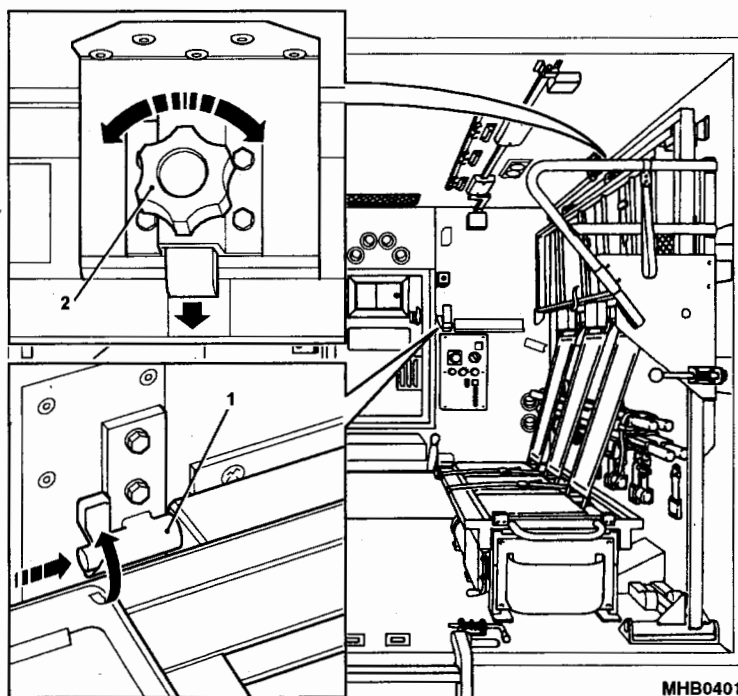

Fig 5 Upper stretcher support frame locking mechanisms
- 8.3 Using restraint straps, secure stretchers (Fig 5 (2)) to the side of the compartment (two stretchers on each support frame).
- 8.4 Release the locking-pin (Fig 5 (1)) at the front of the support frame.